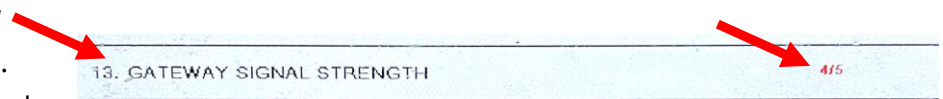

Figure 34
10. View the Gateway signal strength (see Figure 34).